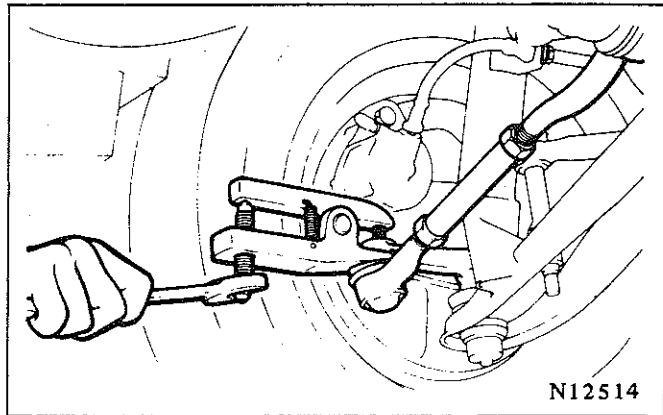

Fig. 18—Disconnecting the tie rod and knuckle arm
- (1) Disconnect the stabilizer link and the strut bar from the lower arm.
- (2) Using the special tool Steering Linkage Puller (E2237), disconnect the steering knuckle arm and the tie rod ball joint. (Fig. 18).